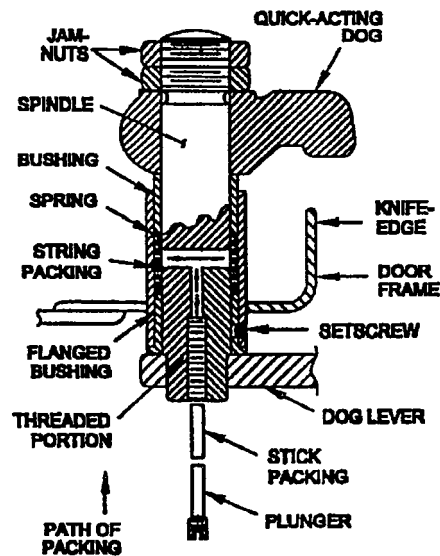
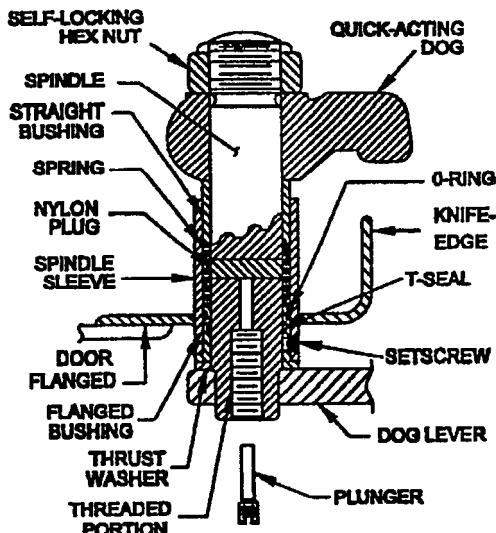
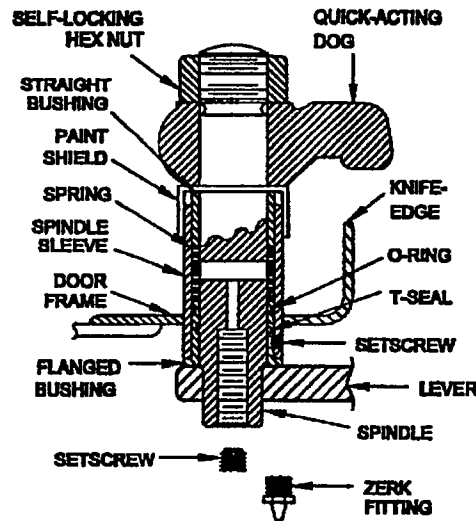

Figure 600-2.6. Quick-Acting Door Dog Assembly (Cross Sectional View)
Figure 600-2.7. Quick-Acting Door Dog Lever Assembly (Cross Sectional View) Modified by MACHALT 167-31004(ECP-444)
Figure 600-2.8. Quick-Acting Door Dog Assembly (Cross Section View) Modified by MACHALT 167-31010 (ECP-526)
- i. Ensure both jamnuts or self-locking hex nuts are in place on each dog assembly. Jamnuts should be locked tightly together. Remove any paint or dirt from the bushings with a wire brush and a clean rag. The straight bushing should not be stuck in the spindle sleeve and should rest against the back of the dog. If the bushing is jammed or stuck in the sleeve, it will have to be removed, and the interior of the sleeve cleaned out and lubricated, to ensure a free sliding fit of the bushing in the spindle sleeve. See figure 600-2.6, figure 600-2.7, and figure 600-2.8.